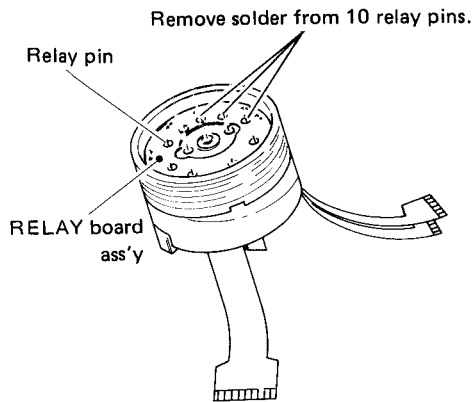

Fig. 2-4-1 Upper drum assembly
1. Unsolder all soldered points of 10 relay pins on the relay board (see Fig. 2-4-1).